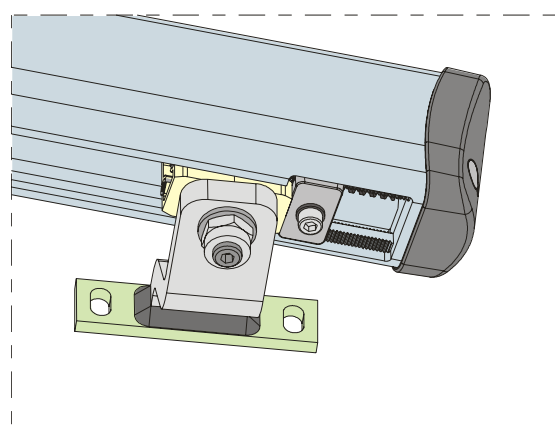

Fig. 20
- 4) Move the stop near the fitting as shown in Fig.20.